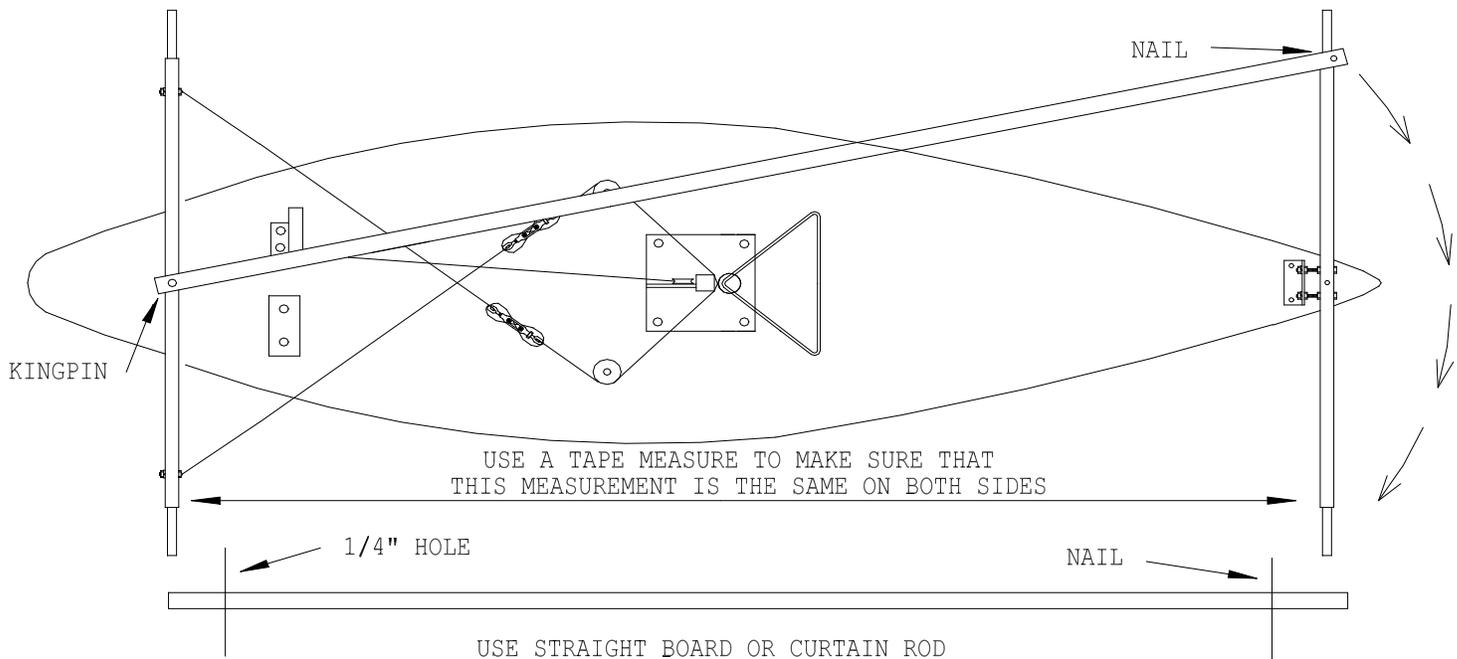

FIG 6.5
1. **AXLE** - Get a straight board or curtain rod. Drill a 1/4" hole in one end, and place a nail in the other end as in Fig. 6.5.
4. **FRONT AXLE** - Measure from the front edge of the Rear Axle. Adjust the steering turnbuckles by tightening one and loosening the other until the alignment is correct. NOTE: Make sure the steering wheel is straight as shown in Fig. 6.5. Also make sure the axles turn the same direction as the steering wheel. The steering cable should be TIGHT and have NO sag in the cables.